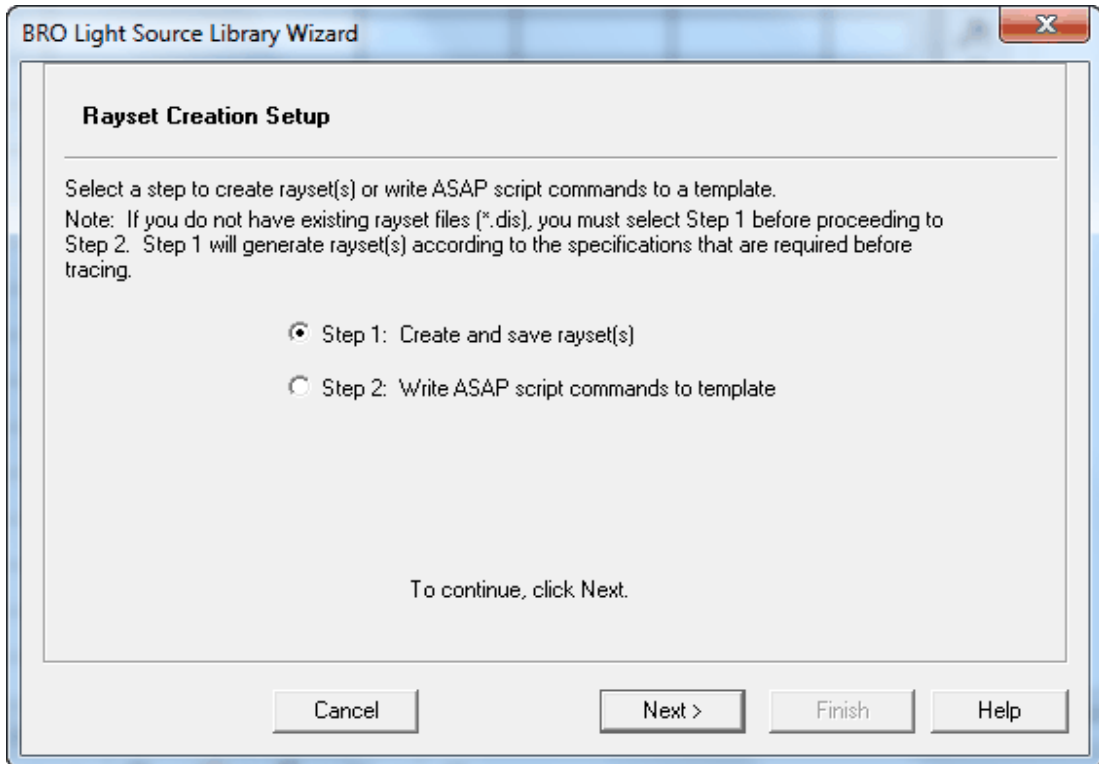

Figure 47 Setting up rayset creation in the Light Source Wizard
- 9 Click **Next** on the Light Source Wizard to display the Rayset Creation Setup dialog box. See Figure 47.
- 10 Select **Step 1: Create and save rayset(s)**. See Figure 47.